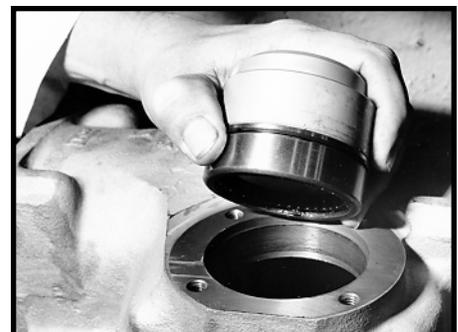

Figure 102
retaining ring (21) into the groove on the bearing's outside diameter. Then press the bearing into the housing from the trunnion side using bearing mandrel (special tool) J26743 against the lettered end of the bearing shell so that the retaining ring is away from the housing bore. SEE FIGURE 102. During this procedure be sure that the housing is square with press base and the bearing is not cocked.